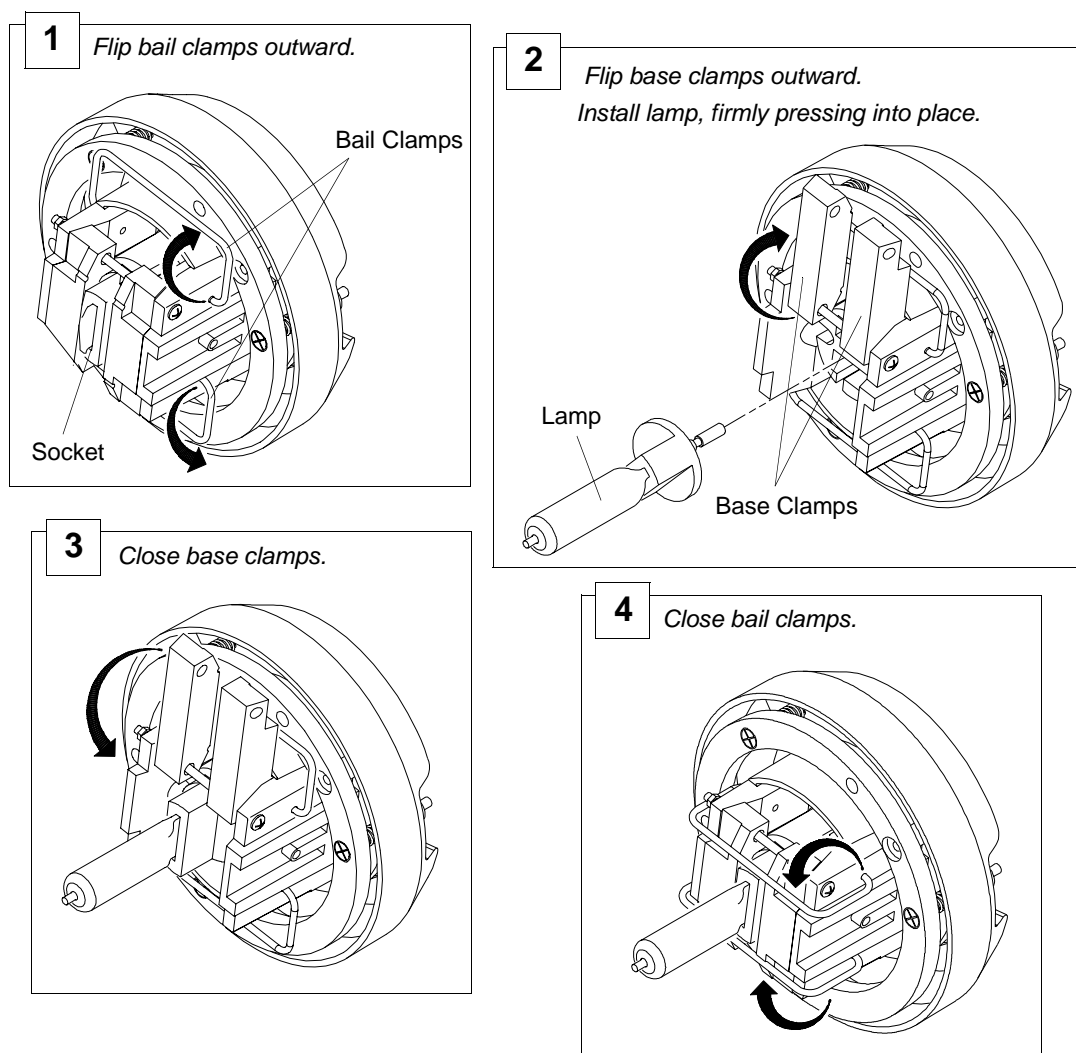

Figure 2-2: Installing Lamp in Socket
Step 3. At backcap, flip two bail clamps outward (**Figure 2-2**).